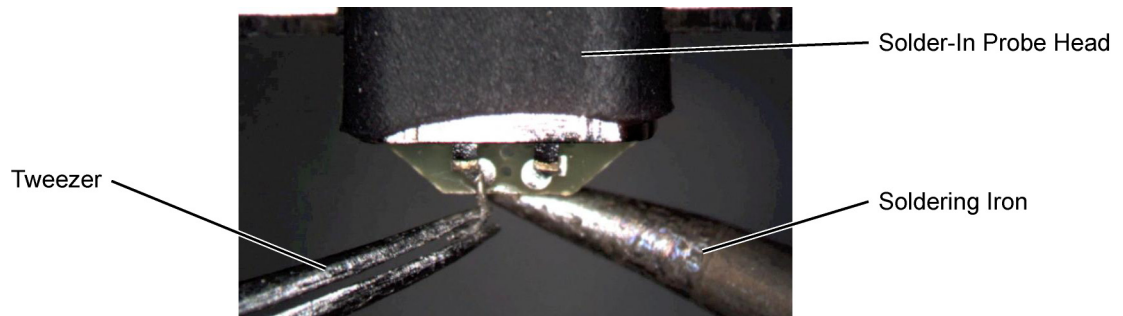

Figure 68 Removing the Old Wire
- 2 As shown in **Figure 68**, remove the old wires with tweezers while re-flowing the solder from the underside of the probe.